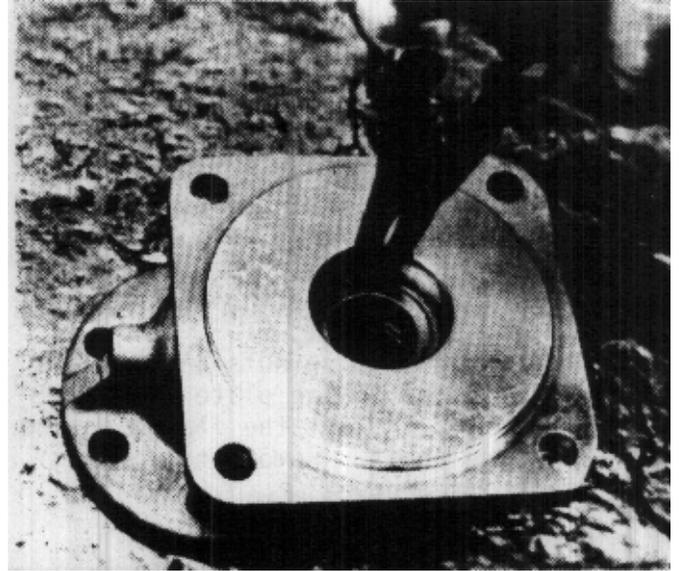

FIGURE 112
8. Install the snap ring, making sure it snaps into the groove properly. (Fig. 112)